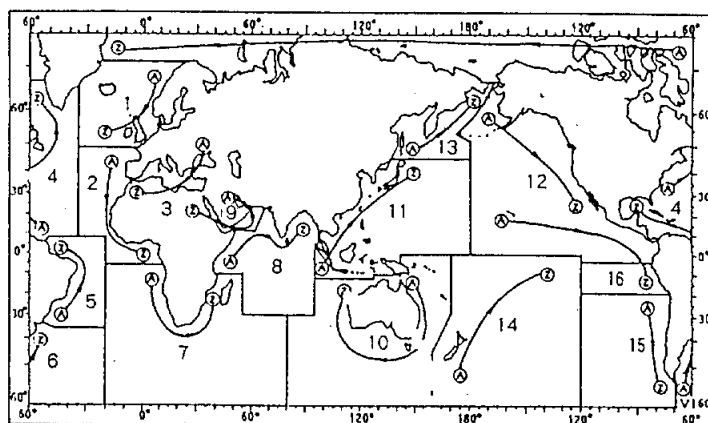

Figure 2-11 Navareas
5. Enter additional Navarea(s) (up to three) for which you want to receive broadcasts. Figure 2-11 shows the Navareas of the world.